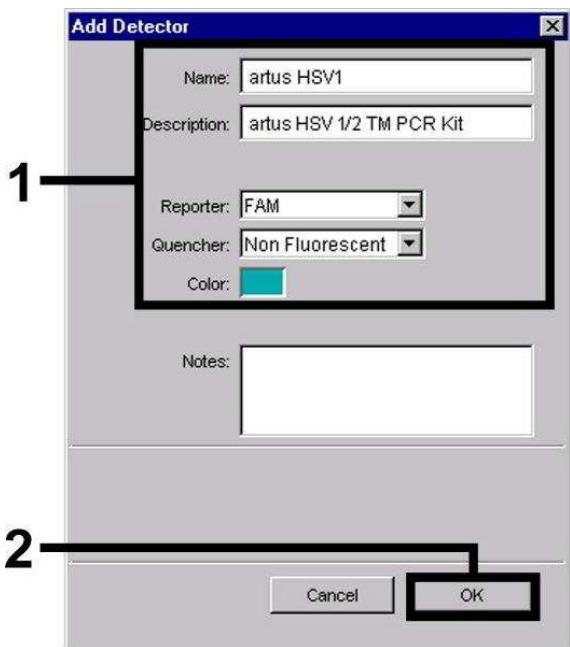
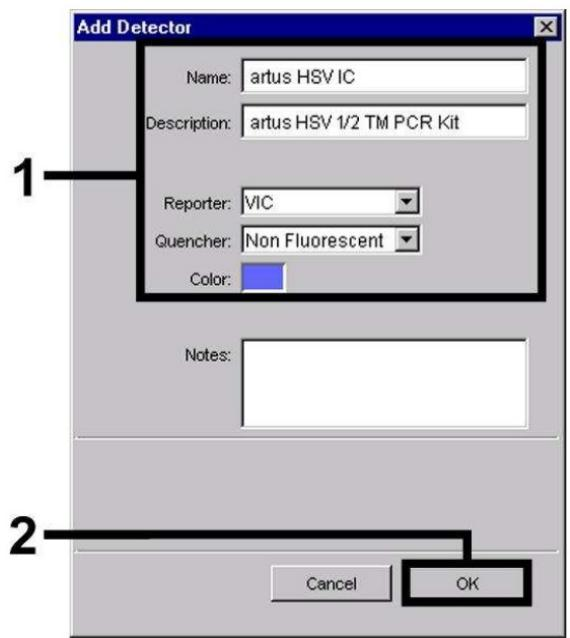
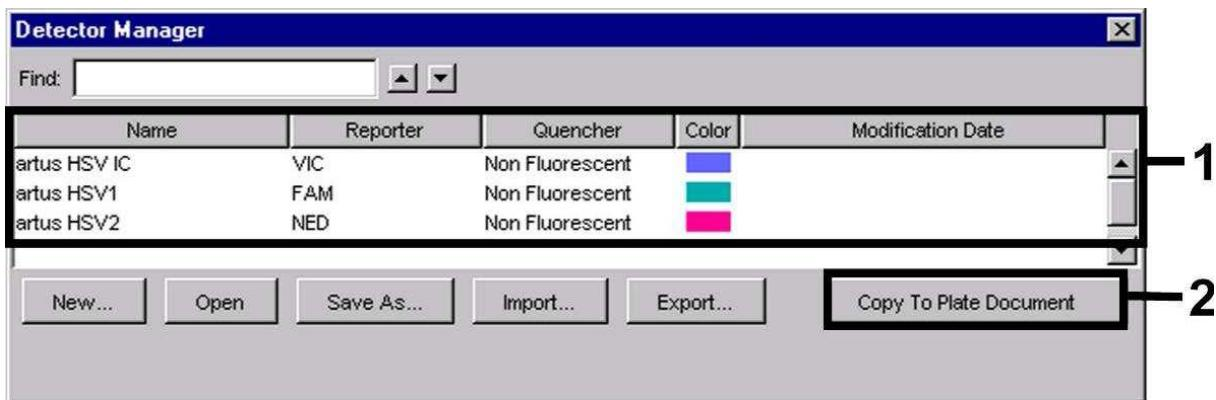

Fig. 12: Creating the HSV-1 specific detector (Detector Manager).
Fig. 14: Creating the IC specific detector (Detector Manager) for HSV-1/HSV-2.
Fig. 15: Selecting the detectors (Detector Manager).
For the detection of HSV-1 DNA and HSV-2 DNA define the reporter/quencher combination **FAM/Non Fluorescent** or **NED/Non Fluorescent** in the new window. For the detection of the *Internal Control*, select the combination **VIC/Non Fluorescent** (as shown in Fig. 12 – Fig. 14). By confirming the input data (OK), return to the *Detector Manager*. Mark the newly created detectors and transfer each selection to the *Setup* level by clicking on the option *Copy to Plate Document* (see Fig. 15). Close the window (Done).